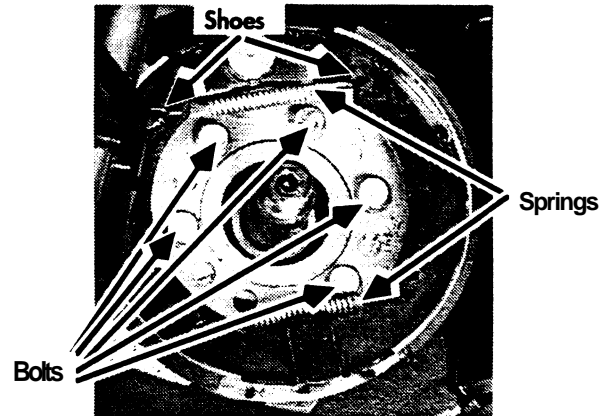

Figure 6-41: Brake Shoes and Springs
9. Remove the shoe springs. See Figure 6-41.
10. Remove the brake shoes. See Figure 6-41.
11. Remove the five (5) bolts holding the brake assembly to the drive motor assembly.